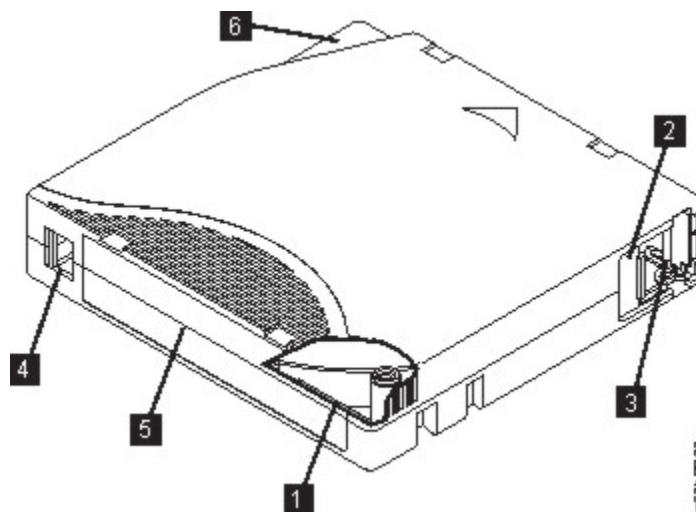

Figure 86. The IBM LTO data cartridge
Figure 86 on page 156 shows the IBM LTO data cartridge and its components.
The cartridge door (2 in Figure 86 on page 156) protects the tape from contamination when the cartridge is out of the drive. The tape is attached to a leader pin (3 in Figure 86 on page 156) behind the door. When the cartridge is inserted into the drive, a threading mechanism pulls the pin (and tape) out of the cartridge, across the drive head, and onto a non-removable take-up reel. The head can then read or write data from or to the tape.
The write-protect switch (4 in Figure 86 on page 156) prevents data from being written to the tape cartridge. For more information, see “Write-Protect switch” on page 162.
The label area (5 in Figure 86 on page 156) provides a location to place a label. See “Labeling tape cartridges” on page 160.
The insertion guide (6 in Figure 86 on page 156) is a large, notched area that prevents the cartridge from being inserted incorrectly.
All generations of the IBM LTO Data Cartridges include a Linear Tape-Open Cartridge Memory (LTO-CM) chip (1) in Figure 86 on page 156). This chip contains information about the cartridge and the tape (such as the name of the manufacturer that created the tape), and also statistical information about the cartridge's use. The LTO-CM enhances the efficiency of the cartridge. For example, the LTO-CM stores the end-of-data location. The next time that this cartridge is inserted and the **Write** command is issued, enables the drive to quickly locate the recording area and begin recording. The LTO-CM also aids in determining the reliability of the cartridge by storing data about its age, how many times it was loaded, and how many errors it accumulated. When a tape cartridge is unloaded, the tape drive writes any pertinent information to the cartridge memory.